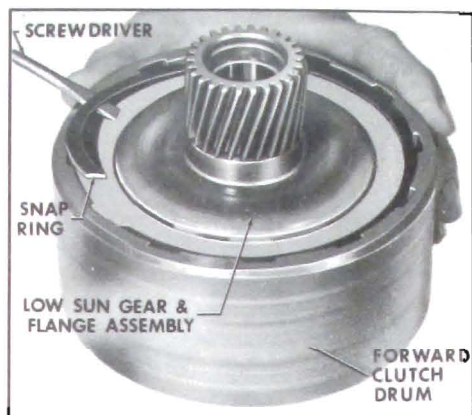

Figure 5-235
12. Install low sun gear and flange assembly retaining ring. Position snap ring so gap is centered between slots in drum. See Figure 5-235.